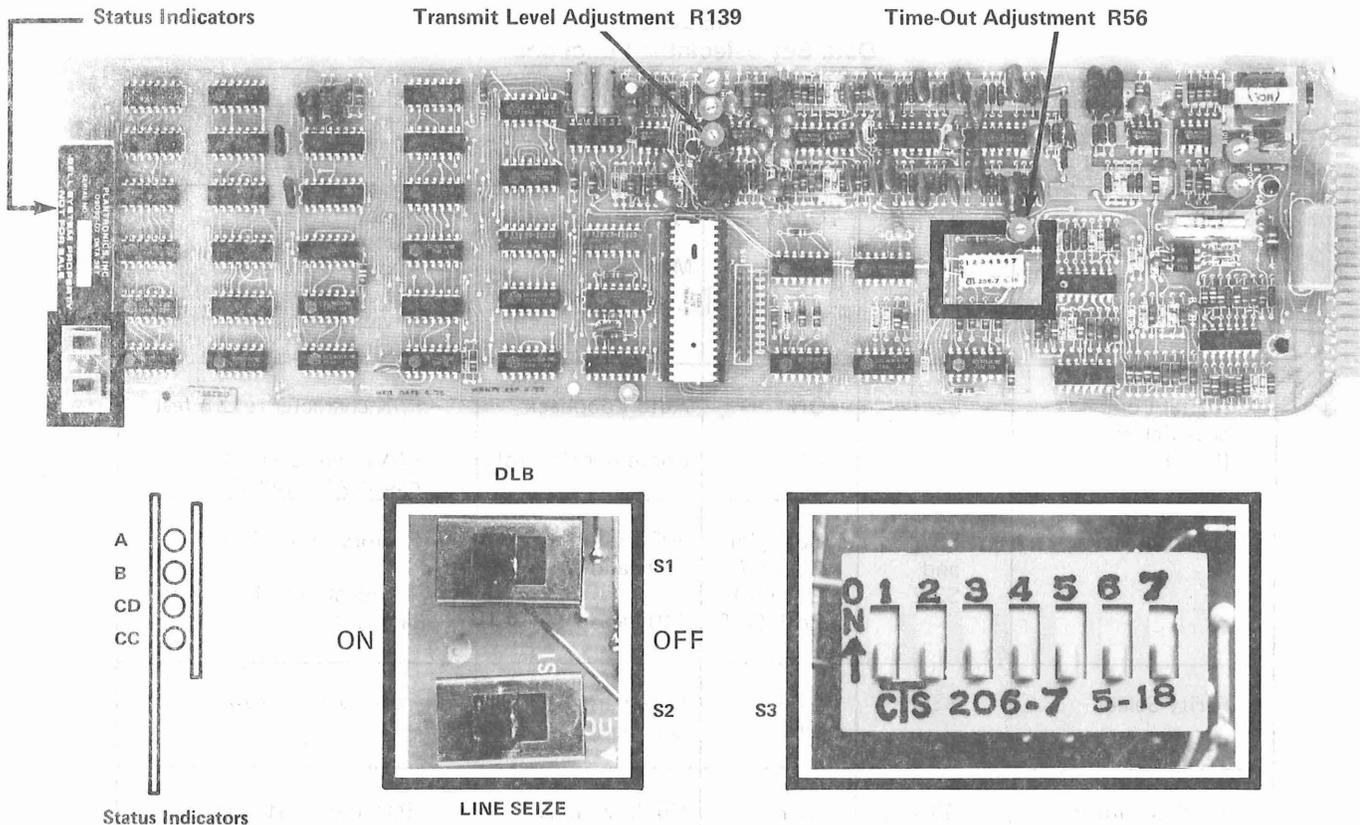
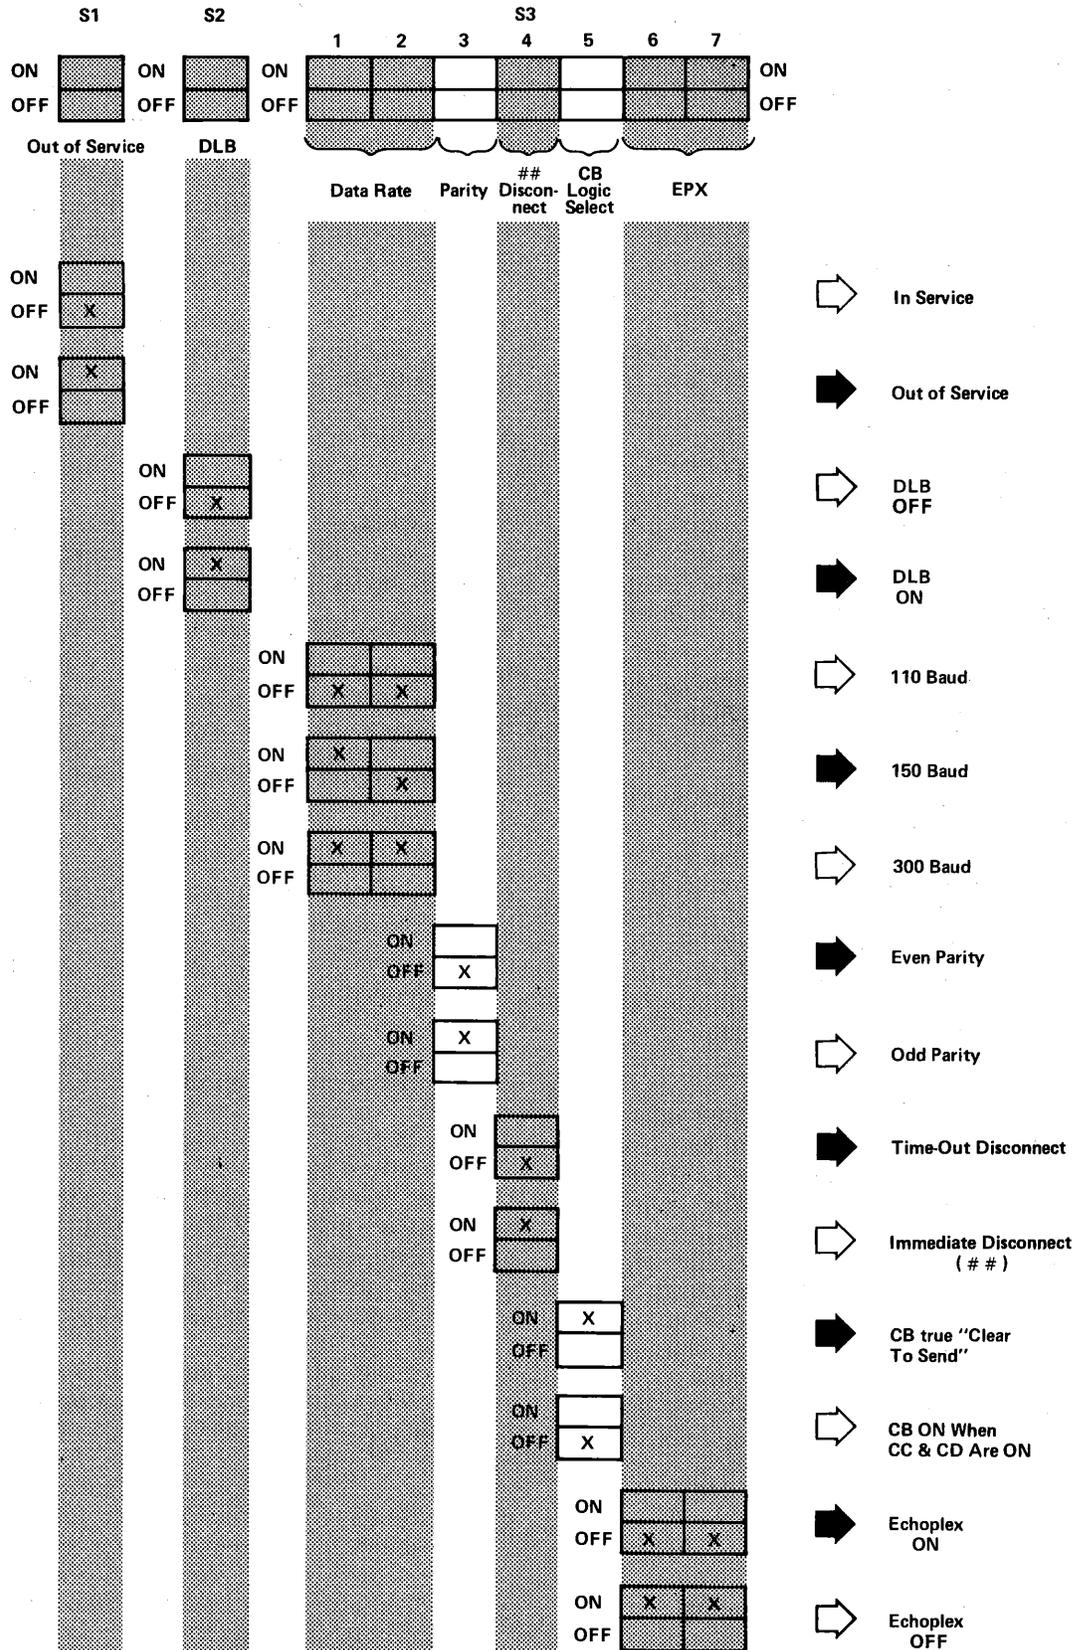

Figure 8, Data Set Board
Figure 12, Data Set Switch Positions
3.09 *Channel Indicators.* The four LED's on each data set board (See Figure 8) work as follows:
4.19 There are two adjustment controls and six switch settings on each data set. (See Fig. 8.) Data set selectable functions and their factory set positions are shown in Table E and Figure 12. If any adjustments are required to be made at the time of installation, refer to the maintenance section for set-up and transmit level adjustment procedures.
5.02 Figure 16 is a block diagram of the data set identifying the user accessible controls shown in Figure 12. This board provides all the signaling functions for two-way (half-duplex) communication between remote terminals over the phone lines.